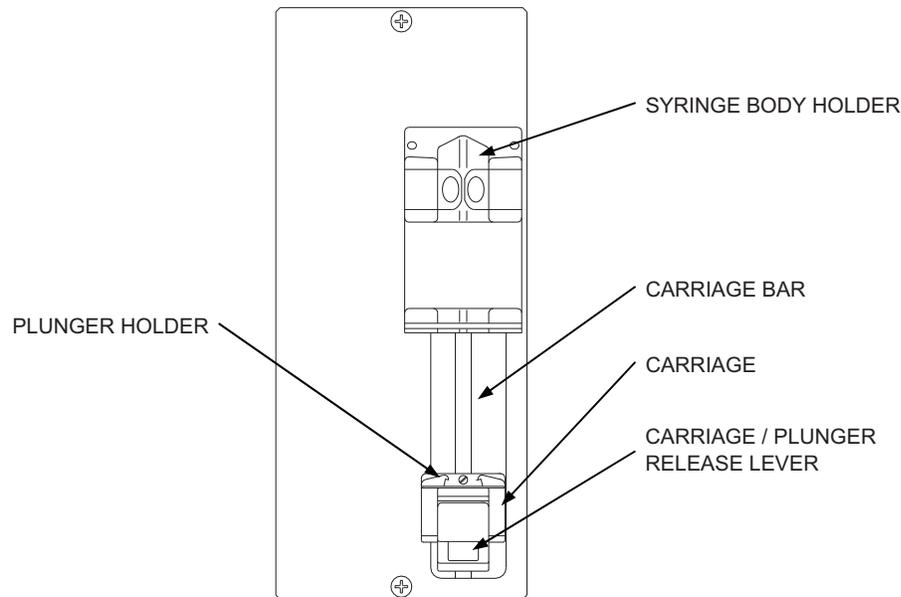

Figure 7. Heparin Pump Module.
6. When the carriage has stopped, press the [Escape] key and clean the carriage bar (See Figure 7).